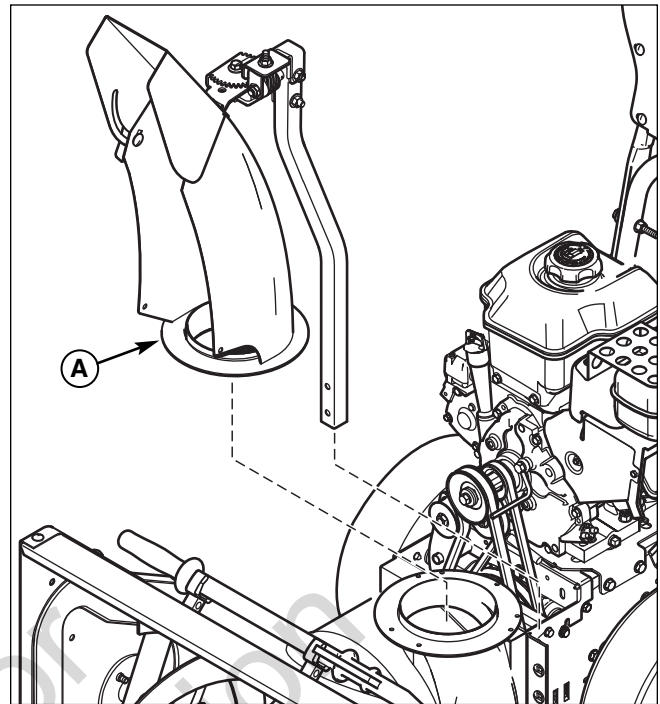

Figure 35. Chute and Rotator Removal
11. Lift the chute and rotator (A, Figure 35) off of the auger housing.